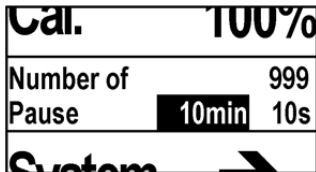

Fig. 44: Setting menu
- ➔ The display in Fig. 44 appears